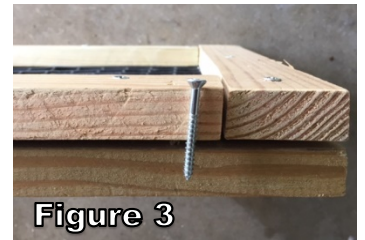

Figure 3
5. Secure the two frames together using screws that pass through the top frame and mesh and half-way through the bottom frame (see Figure 3).